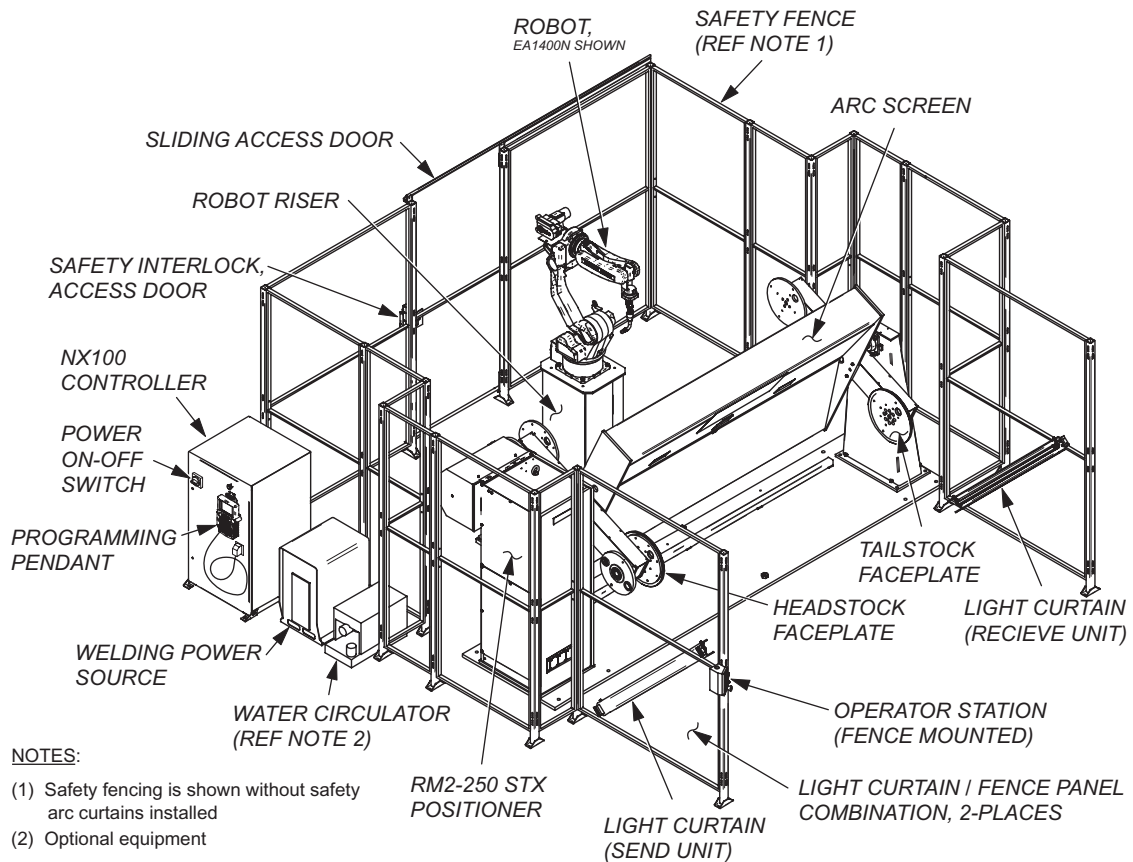

Figure 1 Overview and Component Location – ArcWorld® II-6000 System
Figure 1 illustrates the layout and component location for the ArcWorld® II-6000 system.
- One fence-mounted Operator Station (see Figure 1 for location)